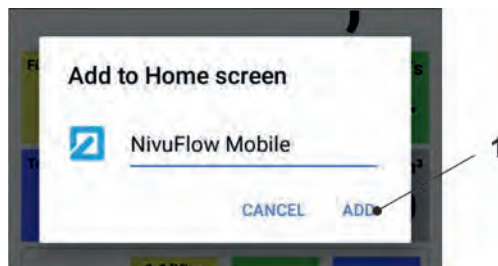

Fig. 31-8 Confirm adding
9. Confirm with "Add" (Fig. 31-8 Pos. 1).